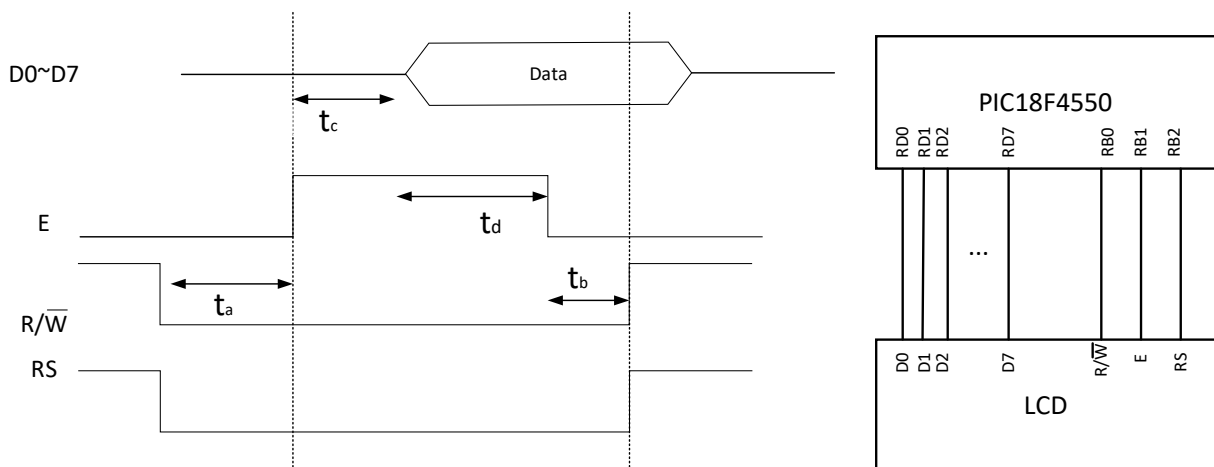

Figure B2.
- B2.** A new LCD module is to be used with PIC18 microcontroller. LCD Manufacturers' technical datasheet provides time diagram and necessary signal handshakes for LCD to accept a control command from microcontroller as shown in Figure B2. Manufacturers define critical time periods as  $t_a=150\mu\text{sec}$ ,  $t_b=70\mu\text{sec}$ ,  $t_c=100\mu\text{sec}$  and  $t_d$  as minimum  $140\mu\text{sec}$  for a correct operation. Answer the following questions accordingly.
- (a) For PIC18F4550 PORTD and RB0—RB2 in the circuit diagram shown in Figure B2, list down the input pin(s) and output pin(s). (3 marks)